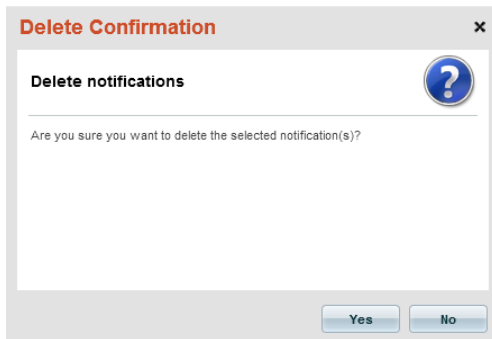

FIG. 143 Delete Confirmation dialog
2. The system will prompt you to verify this action before the selected Notification Rules is deleted (FIG. 143):